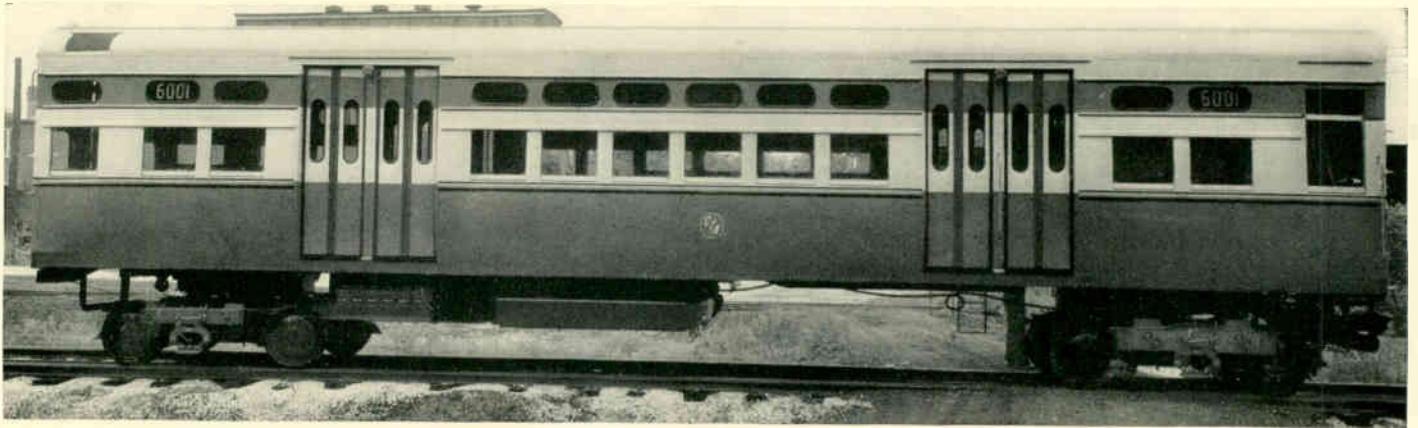

Fig. 1—The lightweight rapid-transit car gives the rider comfort, speed, and safety; the operator gets efficient, economical operation.
To simplify the task of lightning-arrester application, Evans and Beck¹ presented a method for estimating maximum dynamic voltage from curves based on the ratios of system impedances. Their curves, shown in Fig. 1(a), give the maximum line-to-ground voltage as a percent of the base line-to-line voltage in terms of the ratio of R_0 (zero-sequence resistance) to X_1 (positive-sequence reactance) and the ratio X_0 (zero-sequence reactance) to X_1 for a system with no positive- or negative-sequence resistance. All of these quantities are the equivalent impedances seen when looking into the system from the point of fault. The base voltage is usually taken to be 1.05 times the normal line-to-line voltage to allow for emergency operation.
At each point in Fig. 1(a) the type of fault and amount of fault resistance that will give maximum voltage is used to determine the voltage for given system impedance ratios. The curves from the points labeled *A* to the X_0/X_1 axis are determined by the phase-*a* voltage during a double-line-to-ground fault on phases *b* and *c*. From point *B* to the X_0/X_1 axis, the phase-*b* voltage during a single-line-to-ground fault on phase *a* determines the curve. The remaining parts of the curves are determined by the phase-*c* voltage during a single-line-to-ground fault on phase *a*. In applying the curves, any phase can be designated as phase *a* so long as a positive-sequence phase rotation is maintained.
Fig. 1—Line-to-ground voltage charts for grounded systems with dynamic voltage as a percentage of the base line-to-line voltage. The unshaded areas are the usual values that can be expected on effectively grounded systems. The curves at (a) are for a system with no positive- or negative-sequence resistance. Those at (b) are for systems with positive- and negative-sequence resistance equal to $0.1X_1$; those at (c) are for sequence resistance equal to $0.2X_1$.
0.1 X_1 in Fig. 1(b) and 0.2 X_1 in Fig. 1(c)—have been designed to supplement the original.¹ This positive- and negative-sequence resistance causes the maximum voltage to decrease for those portions of the curve determined by the phase-*c* voltage. The voltage increases slightly on those portions of the curves determined by the phase-*b* voltage and decreases slightly on the portions of the curve determined by the phase-*a* voltage.
The curves of Fig. 1 give the maximum voltage across the arrester for any fault to true ground at the arrester location. But some consideration must be given to the possibility of a fault at another location or a fault to arrester ground. Under certain system conditions, either of these may cause a higher voltage across the arrester than is indicated by the curves.
A different fault location can give a higher voltage when a higher R_0/X_1 and/or X_0/X_1 exist at another point in the system, or by the voltage-multiplying effect of an unloaded transmission line. By checking the system impedance ratios around the arrester location the possibility of a higher voltage from a higher impedance ratio can be determined. The maximum error in the curves due to the voltage-multiplying effect of a transmission line occurs when arresters are connected to ungrounded transformer banks at the end of a radial high-voltage line with a fault near the source end of the line. The curve of Fig. 2 gives an indication of the increase in voltage that can occur over that indicated in Fig. 1 at the fault location in terms of the length of line between the arrester location and the fault in miles for an X_0/X_1 ratio of three and R_0/X_1 ratio of one at the fault location. The increase in voltage on an actual system is less than this because the effect of loads and transformer magnetizing current is neglected in Fig. 2. For these cases, where X_0/X_1 is less than three at the fault location, the values from the curve of Fig. 2 are too high.
This impedance should be used to compute the R_0/X_1 and X_0/X_1 ratios to use with the curves of Fig. 1 in finding the maximum voltage across the arrester during a fault to arrester ground. If no transformer neutrals are connected to the arrester ground jX_{0T} becomes infinite, and $R_0 + jX_0$ is equal to $3R_A + R_{0S} + jX_{0S}$.
These curves should serve as a guide in the application of arresters to grounded systems. Some margin should be included to take care of the possibility of greater voltage for other fault locations in line with the above discussion. A system is said to be effectively grounded if the X_0/X_1 ratio is not greater than three and the R_0/X_1 ratio is not greater than one. This range, unshaded areas in Fig. 1, is always within the 80-percent curve with the exception of a small area at low values of X_0/X_1 . Thus, the curves justify the present practice of applying arresters rated at approximately 84 percent (1.05 times 80 percent) of normal line-to-neutral voltage to effectively grounded systems.
transit version of the PCC car is provision for high-level platform loading. Two or three large doors on each side of the car hold the loading and unloading times to a minimum. And the maximum capacity of the car is increased to 180 passengers, 44 percent more than the standard car, while the number of seats is decreased by a longitudinal arrangement to 46, only 15 percent less than the standard car. The car is mounted on two 4-wheel trucks, which can be modified to accommodate the brake system necessary for the application. The wheels are either 26 or 28 inches in diameter, and may be all-steel or the resilient type used on the standard surface car. The rapid-transit car is 48 feet long and is equipped for multiple-unit operation. It weighs approximately 45 000 pounds empty. Seated load and maximum load are 52 000 and 70 000 pounds, respectively. Corresponding weights for the PCC car are: 36 000 pounds empty, 43 500 pounds seated, and 52 800 pounds maximum load. A profile view of the new car is shown in Fig. 1. These cars can be connected back to back to form a semi-permanently connected two-car unit. Units can be operated alone, or combined to make up trains of four, six, eight, or ten cars when traffic demands larger trains.
Fig. 1—A 6000-ampere assembly with bushing adapters suitable for bus running in line with the bushings. With adapters, the main bus can be run from the machine in any desired direction. Each bushing can accommodate a total of three transformers on line and neutral ends.
Bushing current transformers are especially suited where heavy currents and strong, stray magnetic fields are encountered under short-circuit conditions, because their toroidal construction prevents stray or leakage flux from impairing their accuracy. In this new application, the transformers are mounted over the condenser bushings to take advantage of the insulation inherent in the termination of the machine windings. Each transformer, embedded in moisture-resistant, thermosetting Fosterite compound is enclosed in a cast-aluminum case, which permits connecting any kind of bus on the line end. The secondary leads terminate in a compartment integral with this case. A typical assembly is shown in Fig. 1, and Fig. 3 shows a transformer being installed. The construction of these transformers gives excellent protection against moisture, high temperature, and vibration during shipment and installation, as well as in service.